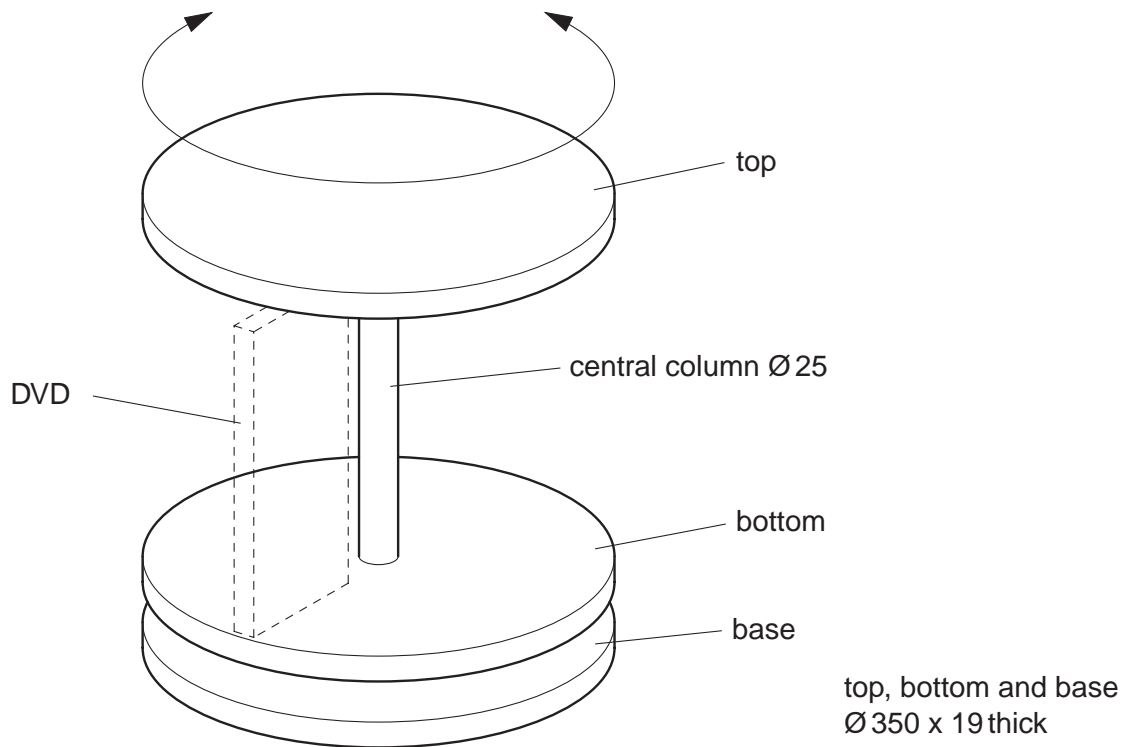

Fig. 5
- 3 Fig. 5 shows an incomplete design for a DVD storage unit made from solid wood. The DVD storage unit (top, central column, bottom) rotates on the base as shown by the arrows in Fig. 5.